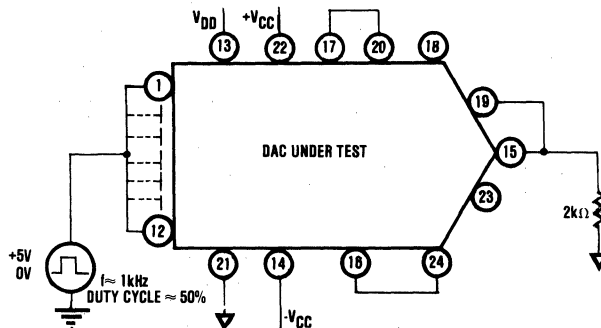

FIGURE 7. Test Circuit-Burn-in and Operating Life Test.
- (1) Test condition D
- (2) Test circuit is Figure 7 herein
- (3) $T_A = +125^\circ\text{C}$ minimum
- (4) Test duration is 160 hours minimum
(1) Test condition D
(2) Test circuit is Figure 7 herein
(4) Test duration is 1000 hours minimum